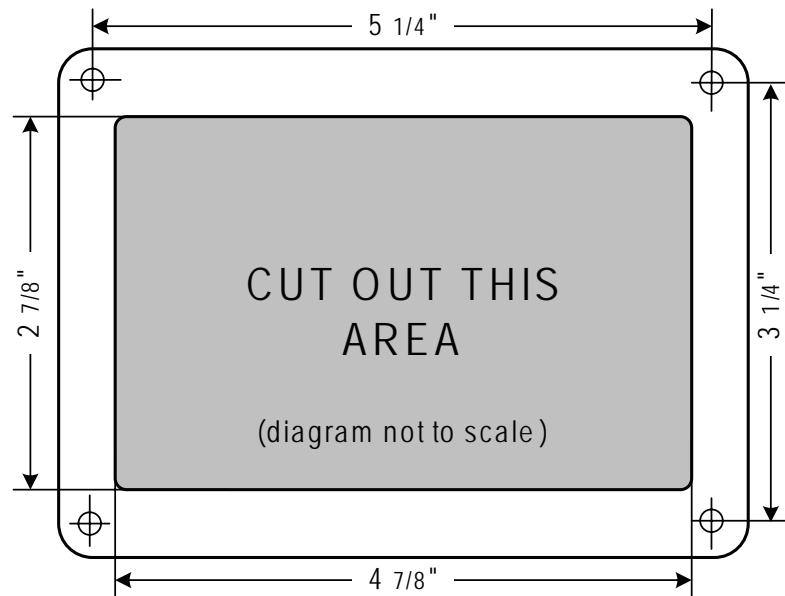

Figure 2-1, Remote Cut-Out Dimensions
2. Refer to figure 2-1 for hole and cutout dimensions.